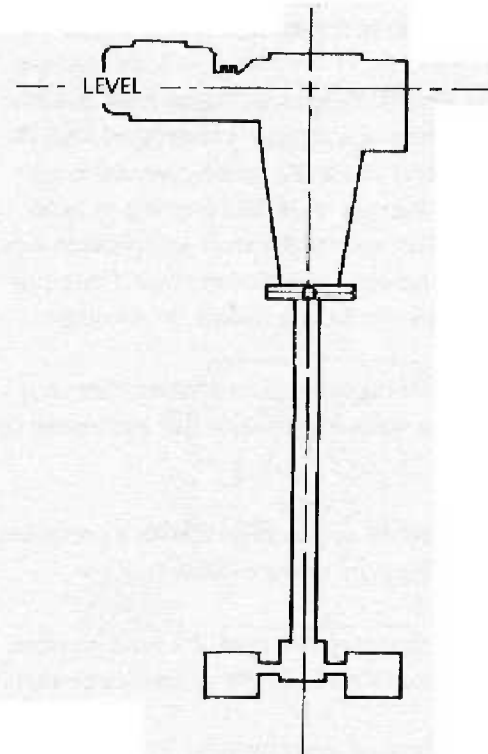

Figure 5
**NOTE:** Level the drive as closely as possible. This assures that the shaft will turn in a true vertical position, as in figure 5.